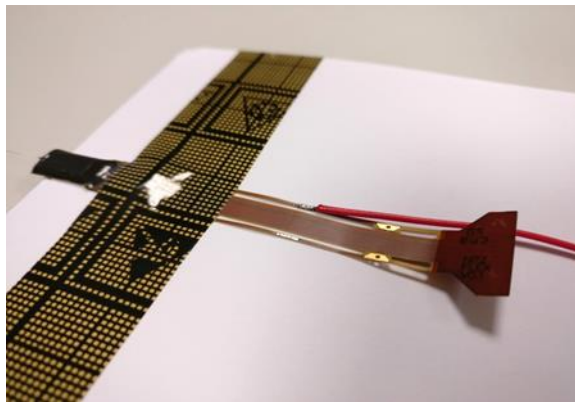

Figure 45: Soldered wire to solder pad without hole.
- Press the solder tip on top of the GND/REF wire and feed some amount of solder wire. This forms a strong solder joint. (Figure 45)